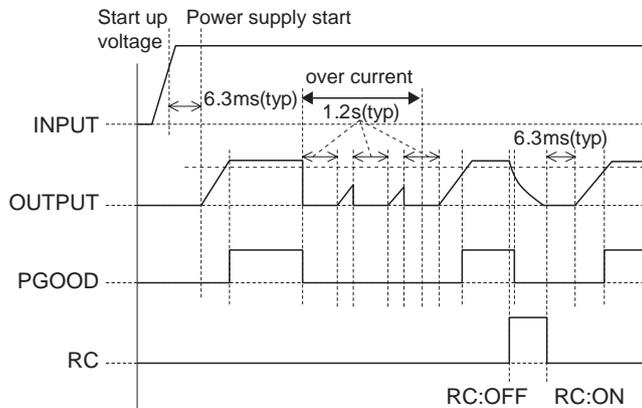

Fig.4.11 Sequence chart of BRFS
- Fig.4.11 is a sequence chart of each function of BRFS.